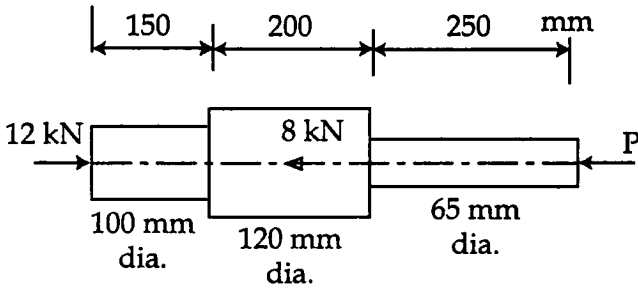

Fig. 2
2. Calculate the change in length of the bar shown in Fig. 2. Assume  $E = 2.1 \times 10^5$  MPa. Compare the elongation with the bar of uniform diameter of 100 mm, loaded in the same manner as in Fig. 2. 14